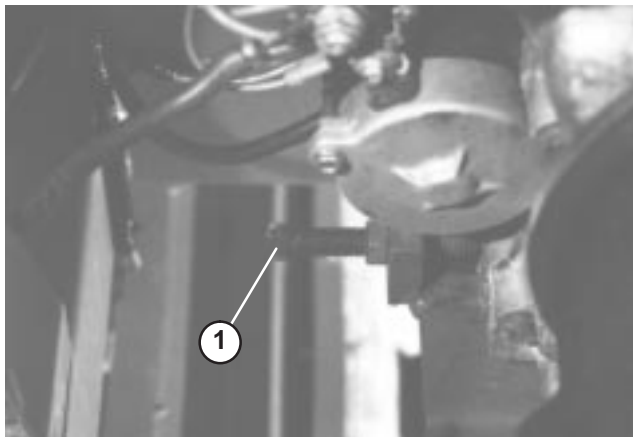

Figure 27
- Turn belt adjusting (Fig. 27) bolt until desired belt tension is obtained. Retighten engine mounting bolts. Reorient engine to make sure engine is parallel with frame. Retighten engine mounting bolts.